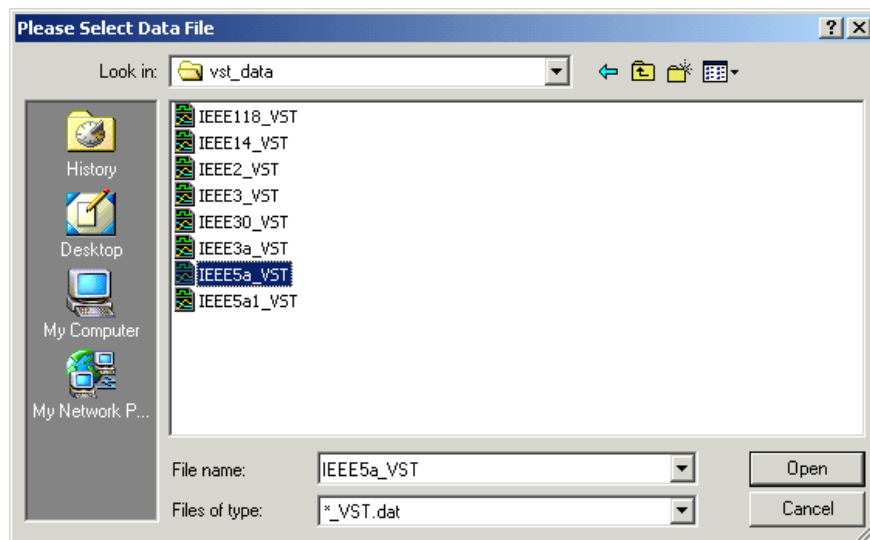

Fig. A.13 The Load dialog box
- This will activate a dialog box shown in Fig. A.13.